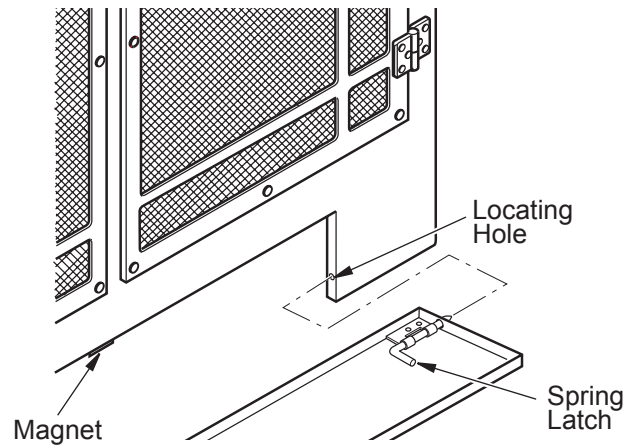

Figure 4 - Installing Access Door
4. Install control access door panel by simultaneously pulling both left and right spring latches towards center and, aligning with locating holes in door, releasing spring latches so they engage with locating holes as shown in Figure 4.